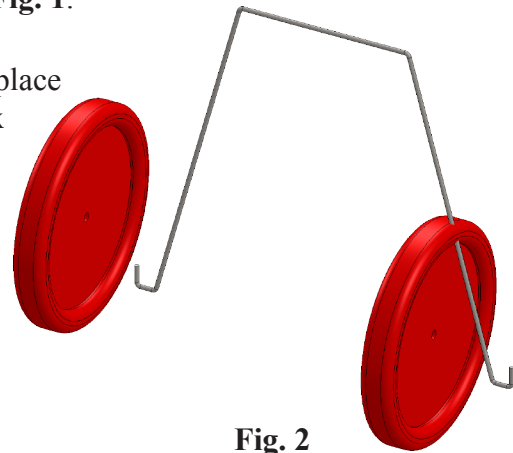

Fig. 2
Step 9. Click approximately where Wheels are positioned in **Fig. 2**. Click OK  in the Property Manager when done.